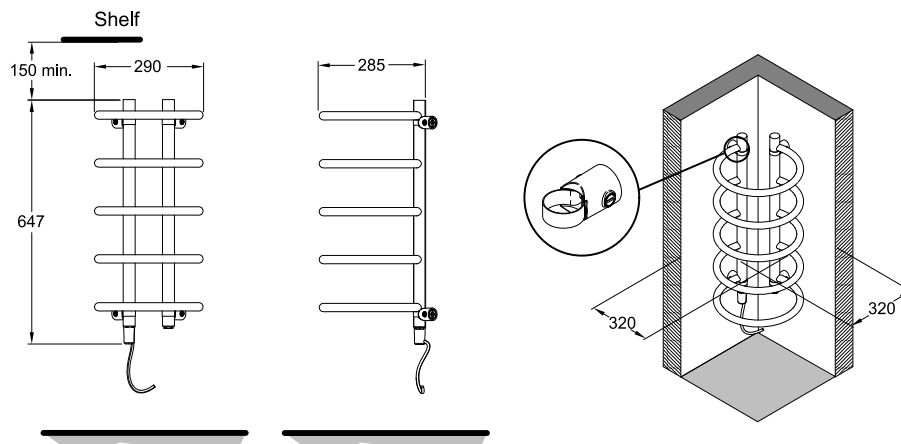
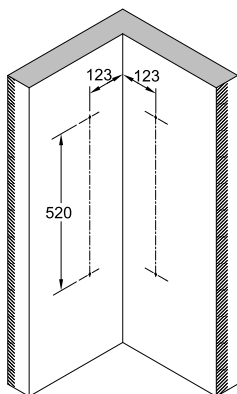
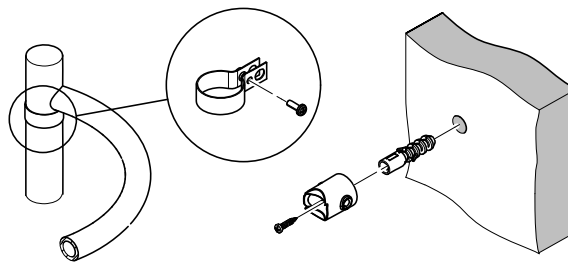

Fig. 1
Fig. 3
Fig. 4
**WARNING** - to ensure safe/ correct operation the rail must only be mounted vertically as shown in Fig. 1, observing the minimum clearances stated.
Mark suitable mounting hole positions for the fixing brackets (ensuring they are horizontal) - see Fig. 3, ensure to allow enough room above and below to maintain the minimum clearance stated in Fig. 1.
Drill and plug (x) the wall to suit. Fix the mounting brackets to the wall using the screws provided (y). Ensure the bracket pin holes are aligned horizontally to allow the mounting pins to be inserted through the collars - see Fig. 4.
Carefully place the four mounting collars around the towel rail uprights in the positions shown in Fig. 1 and secure in place using fixing screws (C) provided - see Fig. 4. ensure the rear of the straps are facing directly backwards.